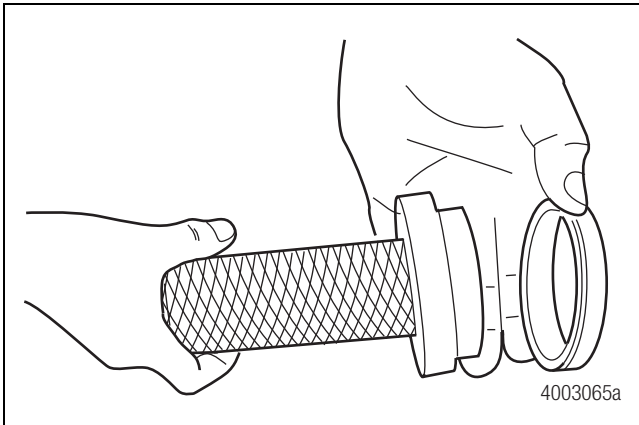
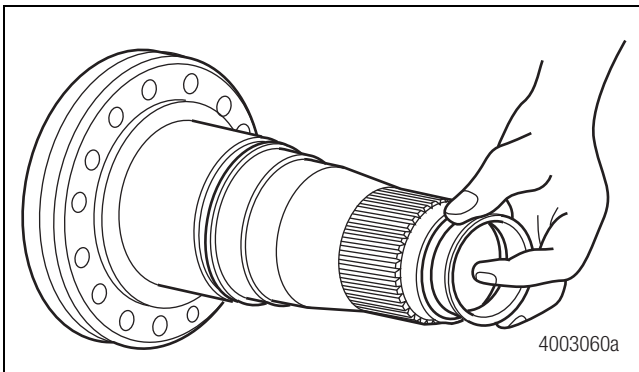

Figure 3.29
Figure 3.30
1. Before you install a new spindle assembly, apply Loctite® 680 adhesive on the outer diameter of the thrust washer. Use the correct size seal driver to install the washer. Install the thrust washer into the spindle end. Figure 3.29 and Figure 3.30.